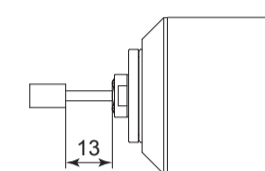

Fig. 15
- Do not exceed 13 mm of overhang for mounted grindstones as shown in Fig. 15. If the overhang must exceed 13mm, reduce the motor speed in accordance with Table. 3.